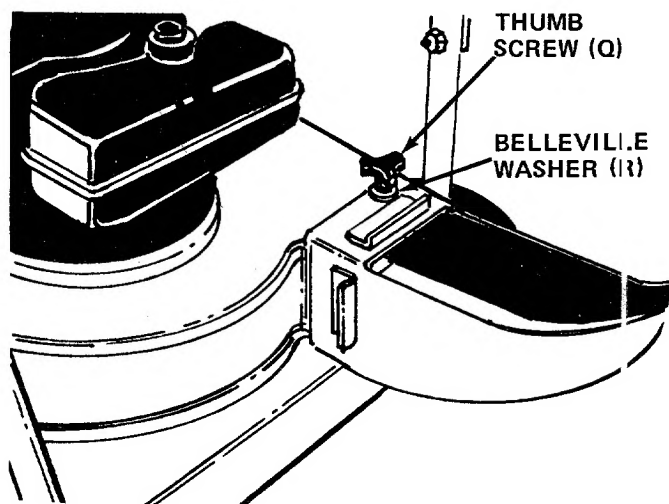

FIGURE 9
11. Secure air duct with thumb screw (Q) and Belleville washers (R). Cupped side of washer must be against the air duct. See figure 9.